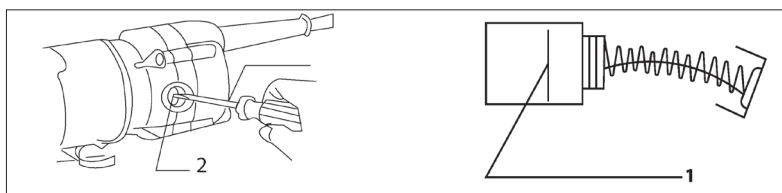

Fig.17
- b. Carbon brushes which are worn out (burned, broken or short-er than limited length see Fig.17) have to be replaced by new ones.